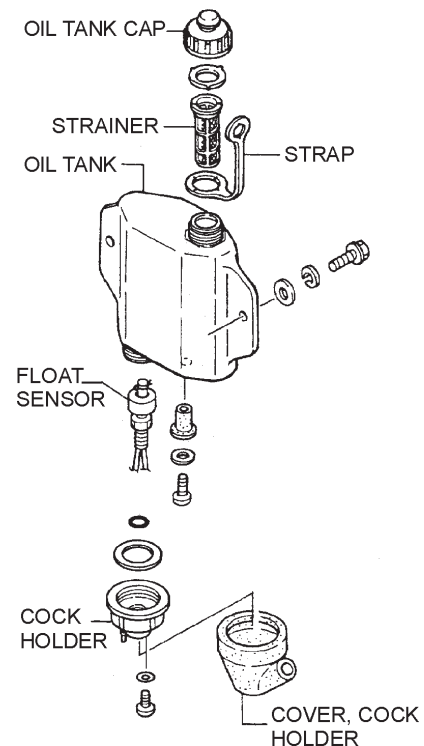

Figure 12. Oil Tank
- When cleaning the oil tank (Figure 12) perform the following procedure: